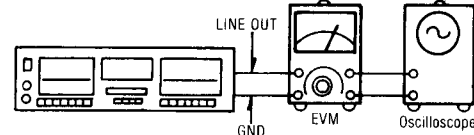

Fig. 2
- The serial number plate of this product is attached to the bottom cover (shown in fig. 2).
1. Make connections as shown in fig. 2.
1. Test equipment connection is shown in fig. 2.